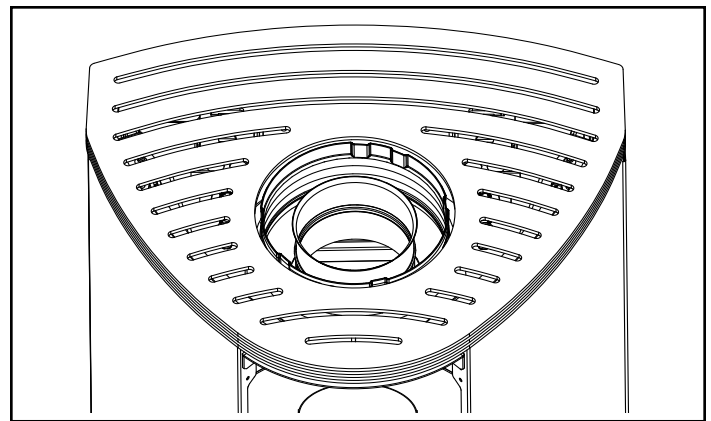

Figure 8.6
1. Remove the top plate with hole and discard. (Figure 8.6).